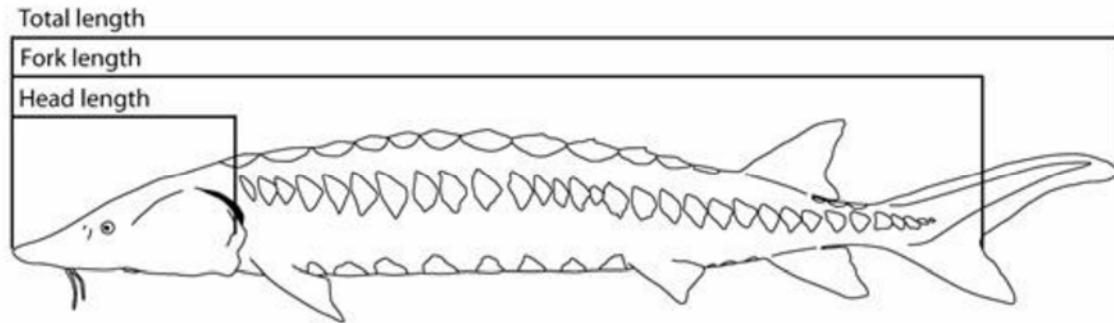

Figure X.2. Diagram of different types of measurements for sturgeons.
12. Length measurements for all sturgeon should be taken as a straight line measurement from the snout to the fork in the tail (i.e., fork length – FL), and as a straight line measurement from the snout to the tip of the tail (i.e., total length – TL) (Figure X.2). Do not measure the curve of the animal's body.